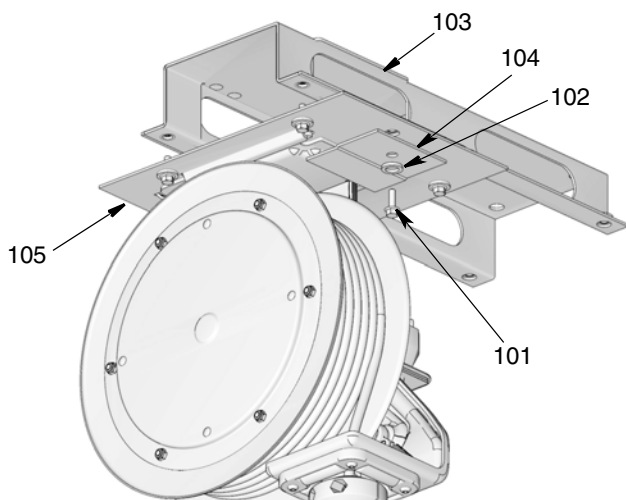

FIG. 8
2. Use the base channel (FIG. 8 - 103) to lay out the position of the mounting holes before you drill.
4. Install the base channel (103) and base plate (105) as shown in FIG. 8.
5. Slide cord reel into the reel base (105) and install the hold down plate (104), washer (102) and screw (101). Tighten the screw firmly (FIG. 8). **Be sure it is secure before lowering the lift truck.**
3. (FIG. 8, page 11): Slide cord reel into the reel base (105) and install the hold down plate (104), washer (102) and screw (101). Tighten the screw firmly.